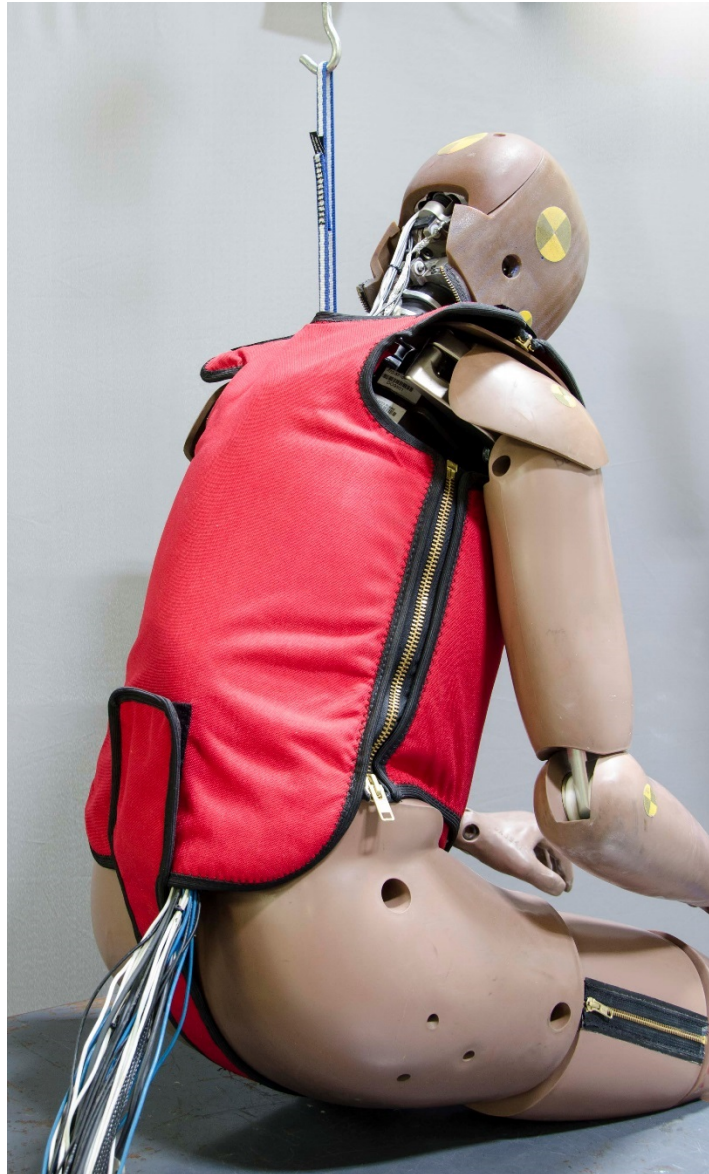

Figure 14-9. Lift dummy and install crotch strap
14.2.2.5 Lift the dummy. While the dummy is suspended, slide the crotch strap assembly (472-3922) between the legs underneath the pelvis. Lower the dummy and attach the Velcro® on the crotch strap to the Velcro® on the bottom of the jacket rear panel (472-3953) (Figure 14-9).